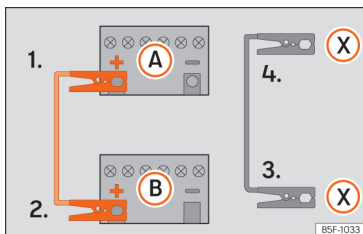

Fig. 83 Diagram of connections for vehicles with Start Stop system
- 4b. *In vehicles with a Start-stop system:* connect one end of the *black* jump lead (X) to a suitable ground terminal, to a solid piece of metal in the engine block, or to the engine block itself » » » Fig. 83.
5. Connect the other end of the *black* jump lead (X) to a solid metal component bolted to the engine block or to the engine block itself of the vehicle with the flat battery. Do not connect it to a point near the battery (A).